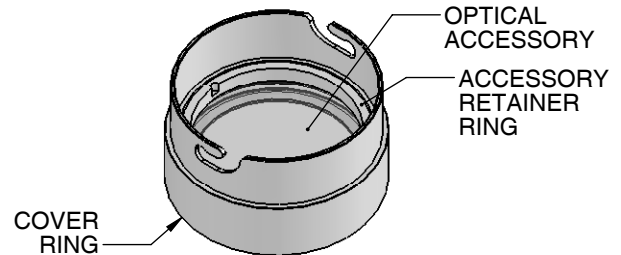

Figure 7
- Install desired OPTICAL ACCESSORY pieces into the COVER RING and re-thread the ACCESSORY RETAINER RING firmly. See Fig. 7.
- \*The COVER RING can accommodate three (3) accessories without the ACCESSORY RETAINER RING or two (2) pieces with it.